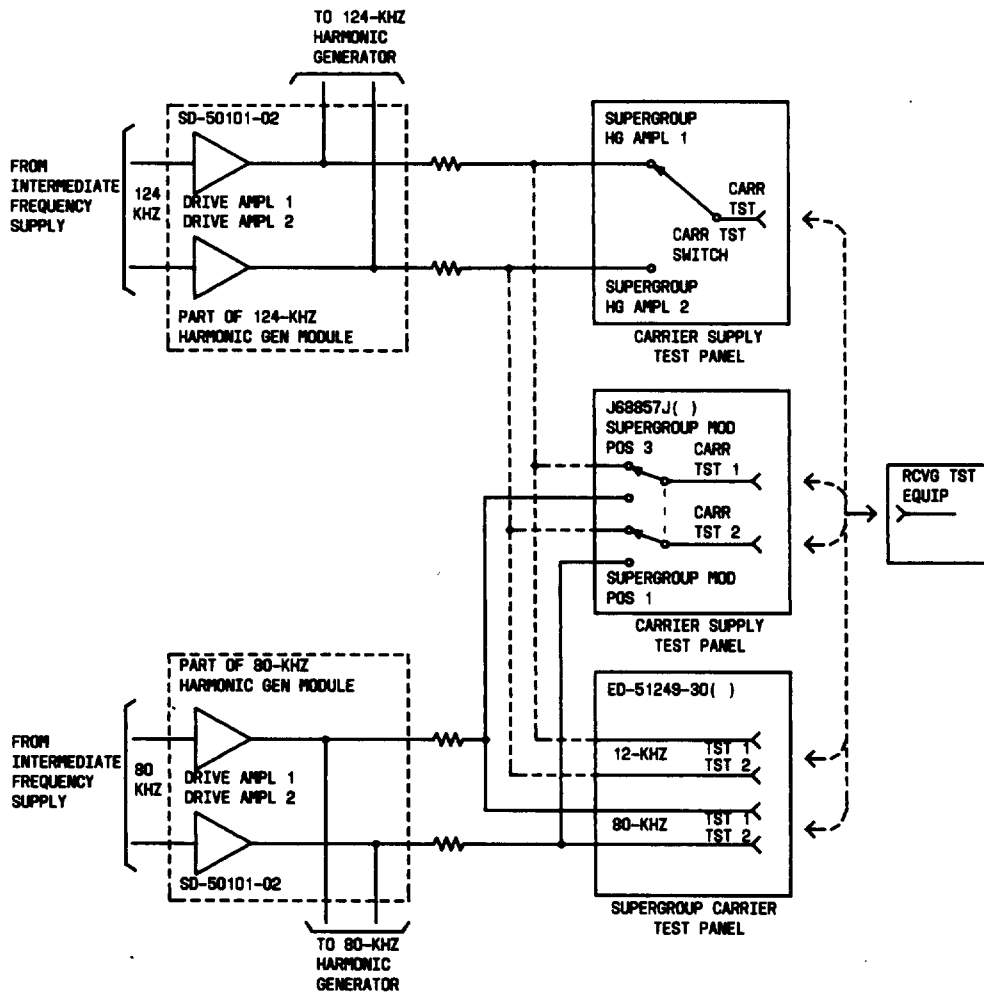

Fig. 5—Supergroup Carrier Driver Amplifier Output Power Test
7	Connect the RTE to the appropriate carrier test panel in accordance with Fig. 5.
15	Remove patch (1), Fig. 5.